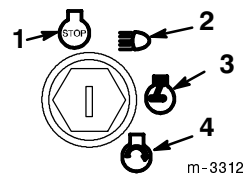

Figure 14
5. Turn the ignition key clockwise to the RUN position (Fig. 14). The glow plug indicator light will come on.
- Turn the ignition key to STOP (Fig. 14).